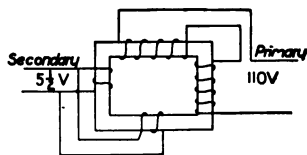

FIGURE 220. — 110 VOLTS TRANSFORMED TO 5½ VOLTS.
3. If the primaries are connected in series and the secondaries in parallel, the voltage will be $\frac{1}{2} \times 110 = 55$. (Figure 220.)